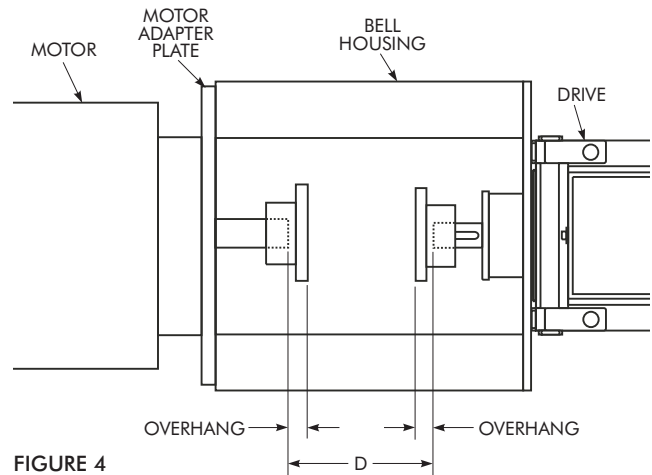

FIGURE 4
Mount the motor to the motor adapter plate on the bell housing before installing the coupling. Once the motor is secured, measure the distance (D) between the end of the motor shaft and the high speed shaft of the drive, see Figure 4. Subtract the distance (D) from the length of the spacer coupling (BE). Then divide this value in half to find the overhang of each hub. $[\text{Overhang} + (\text{BE} - \text{D})/2]$ The overhang will be negative, this is the amount each hub overhangs the shaft. Once the overhang is determined, install the hubs according to the instructions provided with the coupling. Install the spacer sections and verify the gap is correct. If not, readjust the hub on the motor shaft. If the coupling is furnished with an interference fit, readjustment will not be possible, take extra care in making measurements. After the proper gap is set, finish installing the coupling per the instructions.